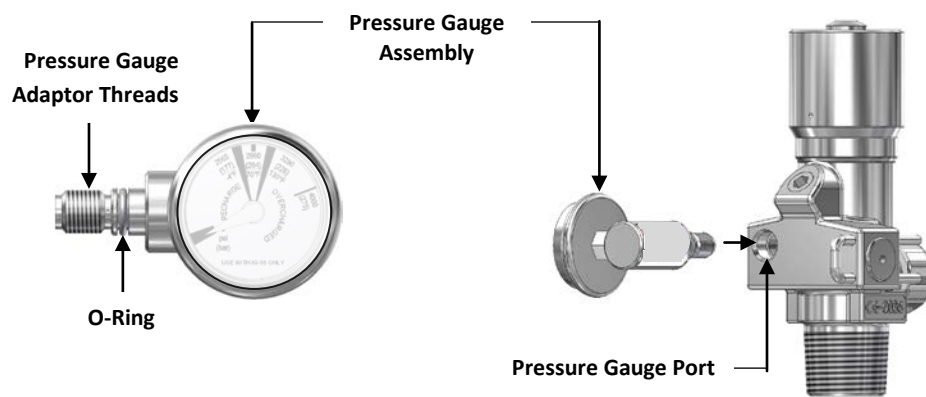

FIGURE 1
Step 1: Prior to Assembly; lubricate the Pressure Gauge Assembly O-Ring (p/n 02-10674) with Molykote 55 or equal. Use care not to get lubricant into pressure port (Refer to Figure 1).